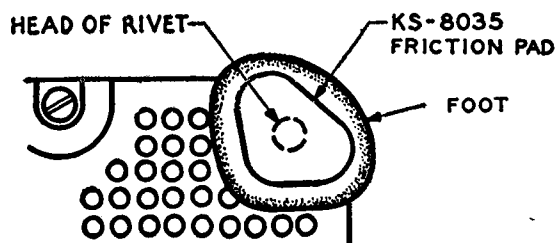

Fig. 12—Base Plate with Foot and Friction Pad Assembled
3.14 Feet that do not meet the requirements in 3.13 shall be equipped with friction pad KS-8035. If the set is already equipped with friction pads and they do not meet specified requirements, they shall be replaced with new friction pads. Pads shall be applied as shown in Fig. 12.